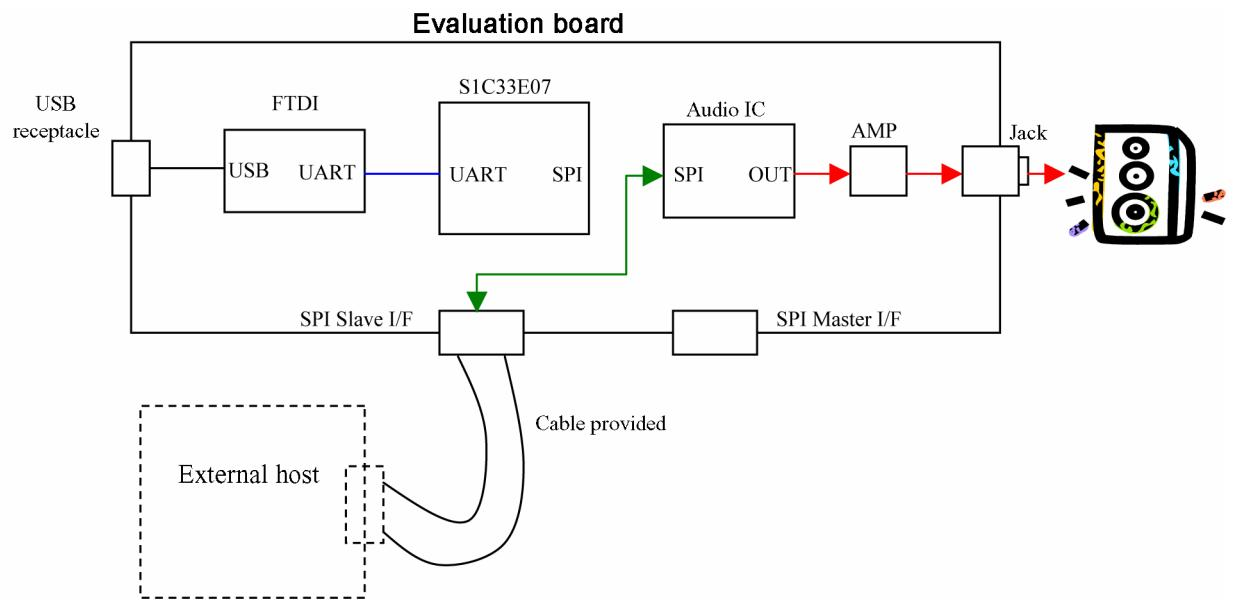
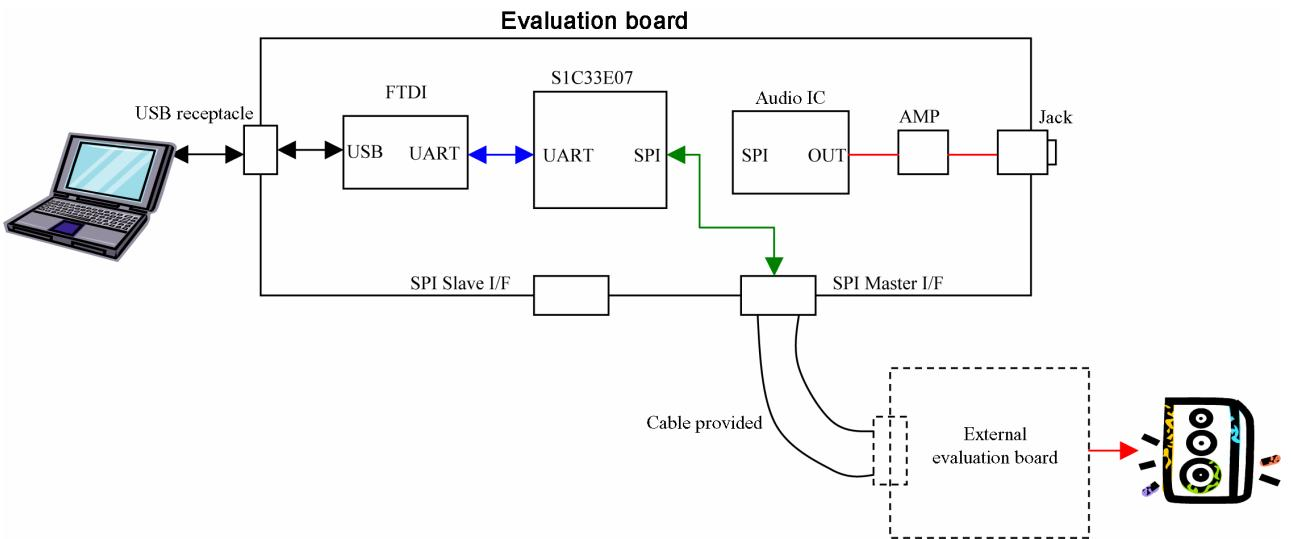

Fig. 2-3 External host connection diagram
Fig. 2-4 Evaluation board host connection diagram
- (2) Fig. 2-3: Allows development and debugging using the client's host CPU.
- (3) Fig. 2-4: Allows operation checking and debugging of the audio IC board developed by the client.
For evaluations based on the configurations shown in Figures 3 and 4, fit a connector to suit the client's board to the "open" end of the cable provided. Clients using the board while connected to an external host (Fig. 2-3) or an evaluation board host (Fig. 2-4) should contact Seiko Epson for detailed specifics.